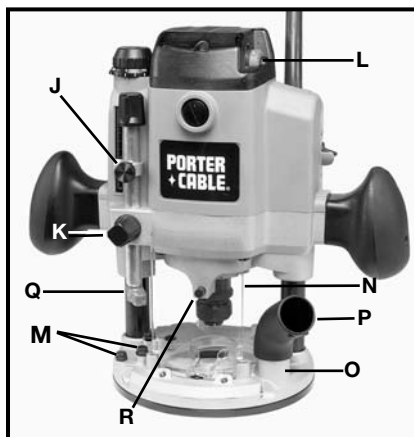

Fig. 9
1. Remove chip deflector (N) Fig. 9.
5. Engage spindle lock (R) Fig. 9 by pressing on it while turning chuck (D) Fig. 9 until it locks into place.
4. Position the depth indicator (J) Fig. 9 at "O" position and tighten knob.
5. Loosen the depth rod locking knob (K) Fig. 9, and raise the depth rod until the indicator aligns with the graduation representing the desired depth of plunge (The example in Fig. 13 shows the setting for 1" plunge). Tighten the depth rod locking knob.
3. Raise the depth rod (Q) Fig. 9 to its highest position.
4. Ensure that the "ON-OFF" switch (I) Fig. 9 is in the off position.